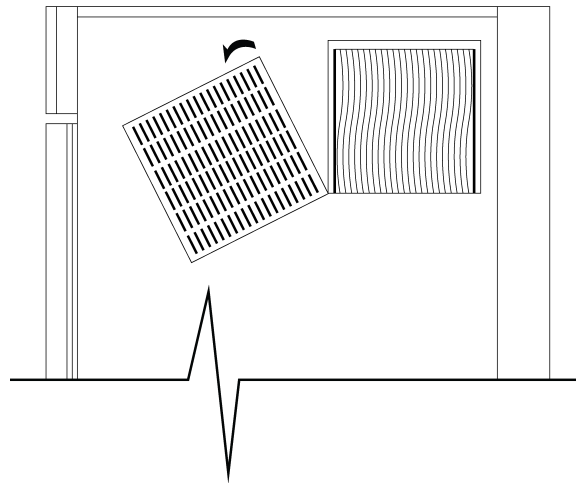

Fig 1. Location of Condenser
- The condenser is located on the right-hand side of the cabinet behind a grill (**Fig 1**).